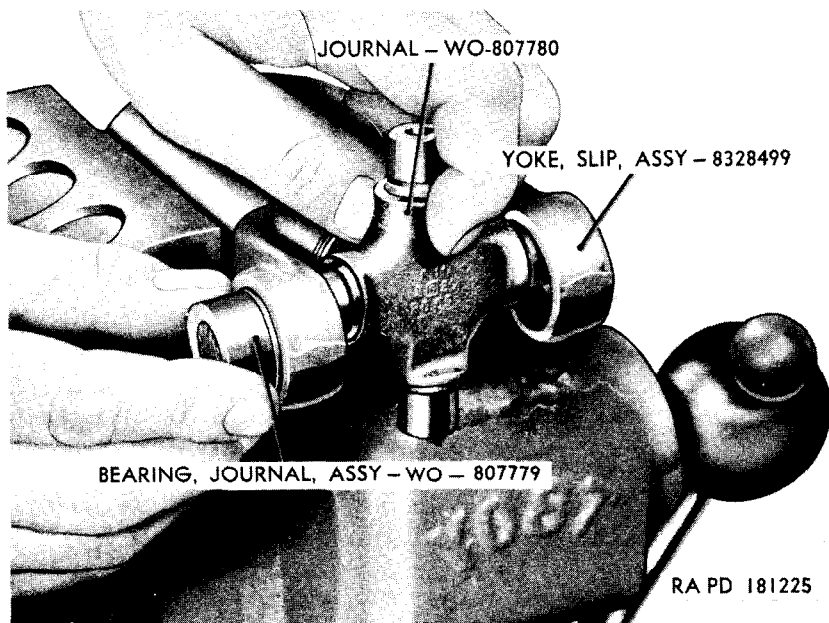

Figure 89. Placing universal joint journal in position in slip yoke assembly.
a. *Install Journal in Slip Yoke or Propeller Shaft.* Install lubrication plug (W and P) in journals (X and Q). Install the journal bearing oil seal (F) in the journal bearing roller retainer (E). Place the journal (fig. 89) in position, in the slip yoke or shaft.